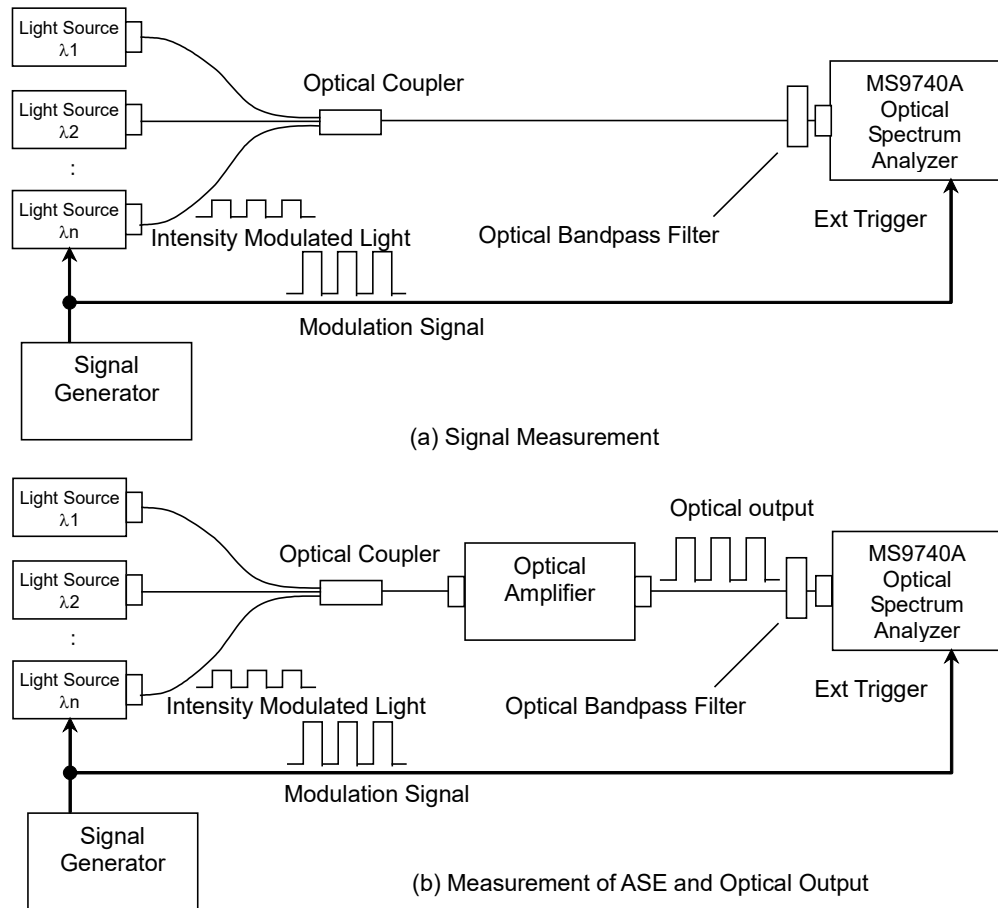

Figure 5.7.6-1 Measurement System When Optical Input is Wavelength Multiplexed
8. Input the output light of the optical amplifier to this instrument as shown by the connection in Figure 5.7.6-1 (a).
22. Connect as shown by the connection in Figure 5.7.6-1 (b) and input the output light of the optical amplifier to this instrument.